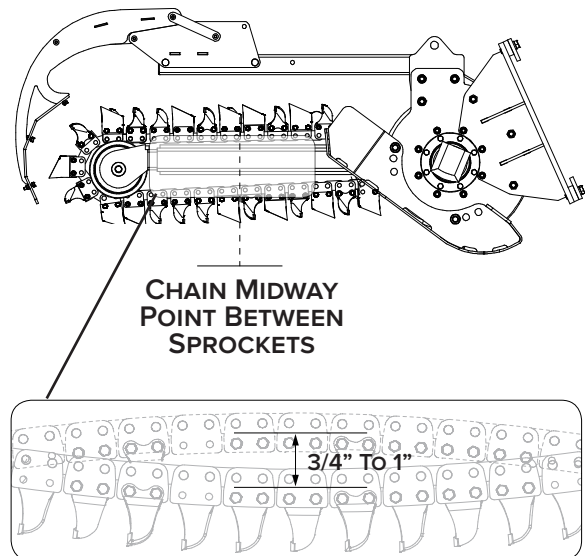

Figure 27
3. To achieve the correct chain tension: Adjust the tension on the lower chain section at the midway point between the sprockets to allow 3/4"-1" of vertical movement [Figure 27].